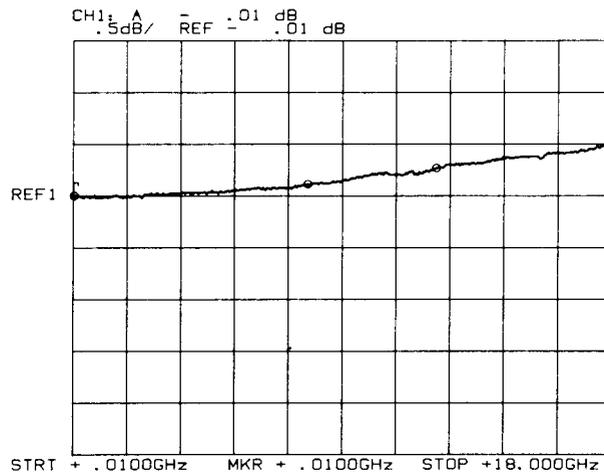

Figure 4-10. Detector Tracking Display
6. On the HP 8756A, press **[SHIFT] [REF]** to bring the active marker (**M1**) to the reference line. The trace between markers **M1** and **M2** (.01 to 8 GHz) should now be within one division (+.5 dB) of the reference line (see Figure 4-10). Read the trace between **M2** and **M3** (8 to 12 GHz). It should be within two divisions (+1 dB) of the reference line. Between **M3** and **M4** (12 to 18 GHz), the trace should be within three divisions (+1.5 dB) of the reference line.